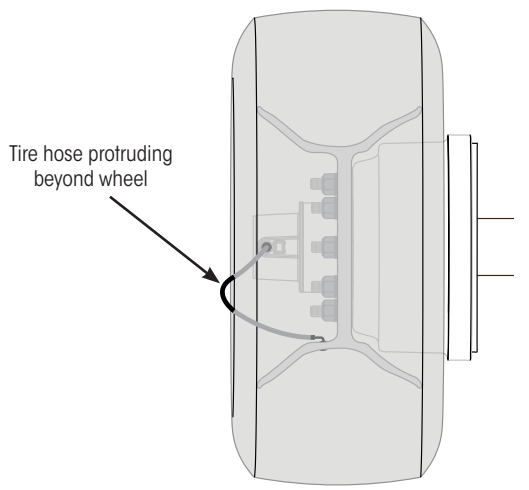

Figure 3: Improper tire hose installation (super single shown)
- No portion of the tire hose extends outward past the wheel (Figure 3).